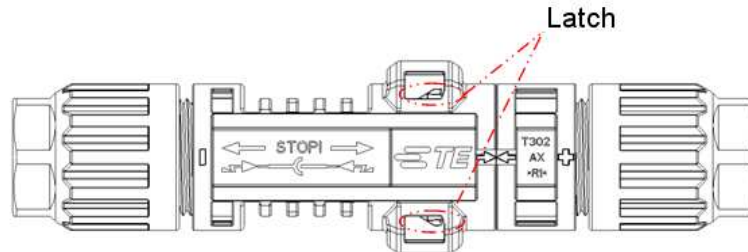

Figure 10
- Mating of the connectors is done by pushing the connectors together until a clear audible click is heard. This clear audible clicking sound must be heard to ensure the connectors have been mated correctly. When the connectors are correctly connected the latches should be flush against the edge of the connector (see **Figure 10**).